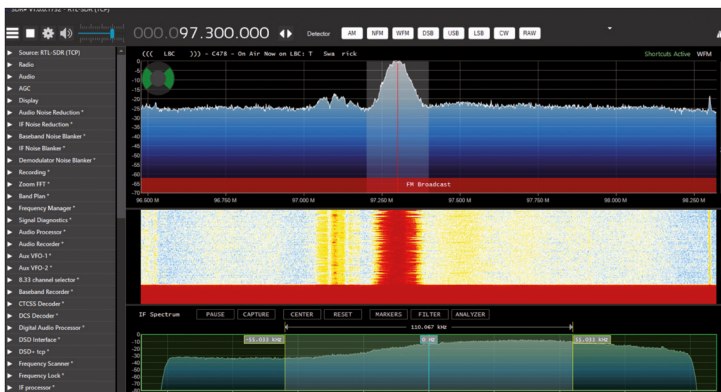

Figure 11.7: SDR Sharp after tuning to 97.3 MHz (example frequency).
- Tune the **SDR Sharp** to the frequency you wish to listen to (e.g., set it to a local FM broadcast frequency for easy checking). You should hear the reception on your PC speakers. Figure 11.7 shows the SDR Sharp display after tuning to the local radio at 97.3 MHz.